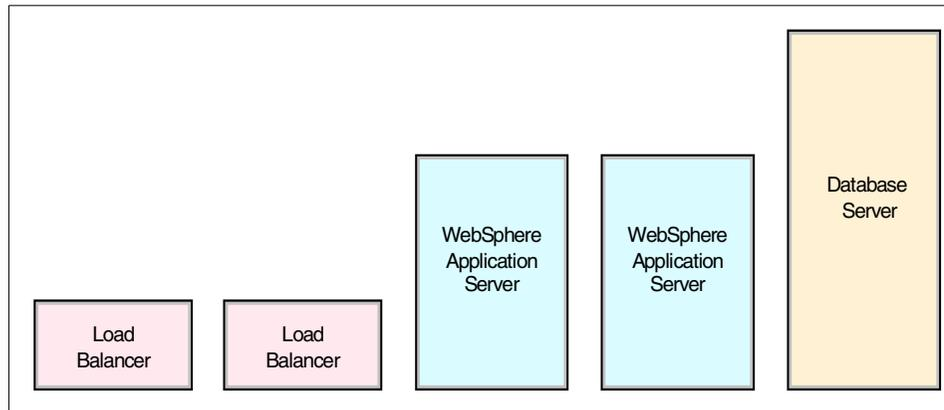

Figure 1-8 Common management domain
- Figure 1-8 on page 22 illustrates a common management domain.